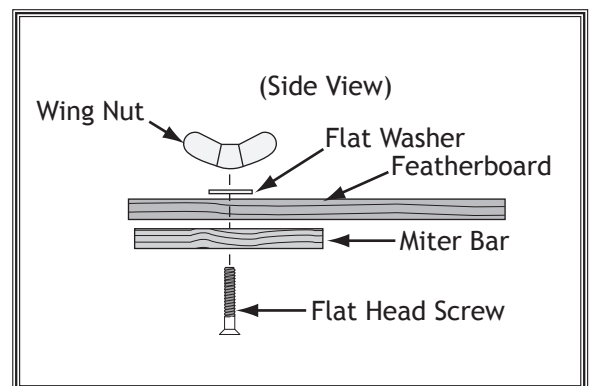

Figure 99. Assembly order of featherboard components for use with a miter slot.
8. Assemble the miter bar and featherboard with a $\frac{1}{4}$ "-20 x flat head screw, flat washer, and a wing nut or a star knob (see **Figure 99**). Congratulations! Your featherboard is complete.